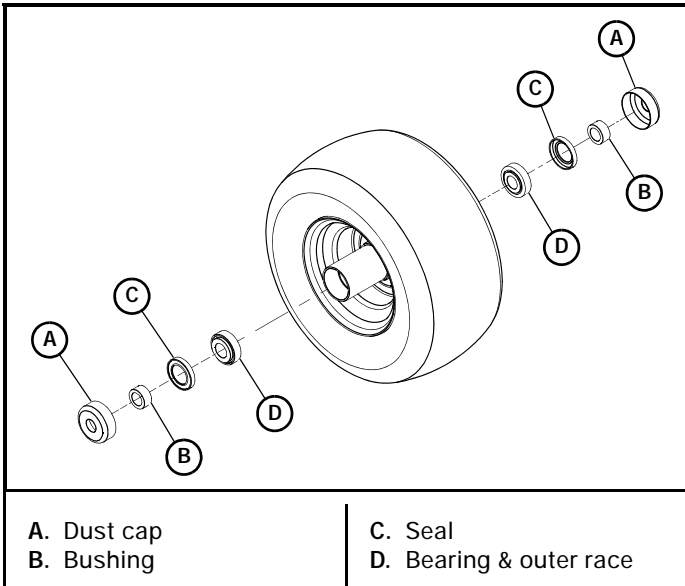

Figure 4-44
5. Insert the bushings through the seal openings and push them in until they contact the tapered roller bearings. Figure 4-44
6. Push the dust caps onto the wheel housing. Figure 4-44